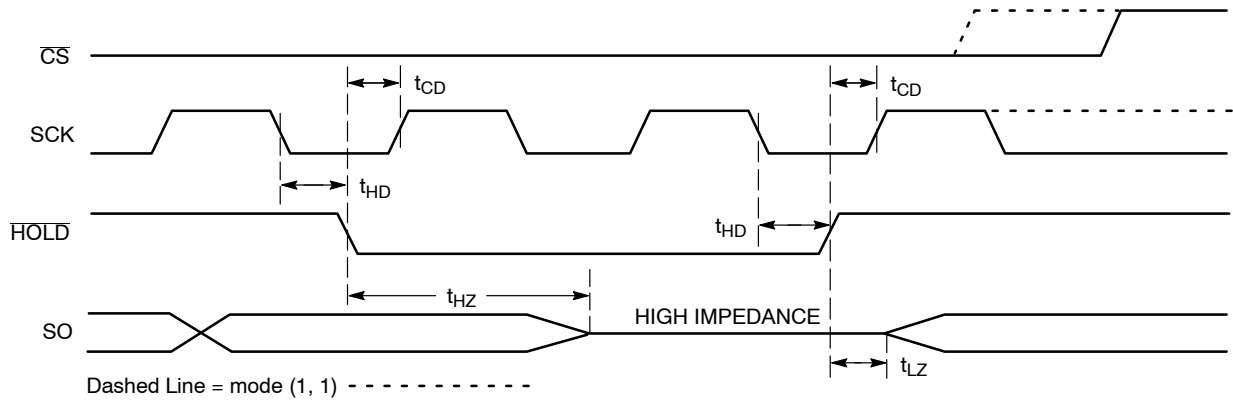

Figure 11.  $\overline{\text{HOLD}}$  Timing
The  $\overline{\text{HOLD}}$  input can be used to pause communication between host and CAV25320. To pause,  $\overline{\text{HOLD}}$  must be taken low while SCK is low (Figure 11). During the hold condition the device must remain selected ( $\overline{\text{CS}}$  low). During the pause, the data output pin (SO) is tri-stated (high impedance) and SI transitions are ignored. To resume communication,  $\overline{\text{HOLD}}$  must be taken high while SCK is low.